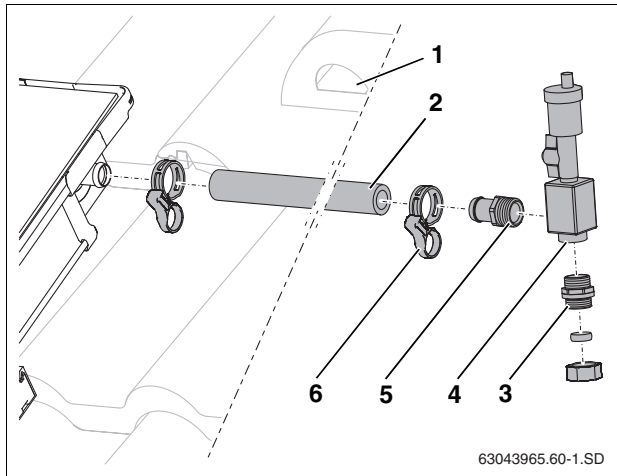

Fig. 52 Installing the solar hose to the supply connection
- ▶ Push long solar hose (40 in, 1000 mm, Fig. 52, [2]) onto the supply connection on the collector array and fix in place using a hose clamp.
- ▶ Feed solar hose together with the sensor cable through the penetration (Fig. 52, [1]) and through the roof insulation.
- ▶ Firmly screw R $\frac{3}{4}$ hose adapter with O-ring (Fig. 52, [5]) and double nipple with O-ring (Fig. 52, [3]) into the air vent (Fig. 52, [4]).
- ▶ Slide a hose clamp (Fig. 52, [6]) over the hose.
- ▶ Push hose adapter onto the solar hose as far as it will go and fix in place using spring clip (Fig. 52, [6]).
- ▶ Connect header pipe to the hose adapter and secure with the compression fitting (Fig. 52, [3]).